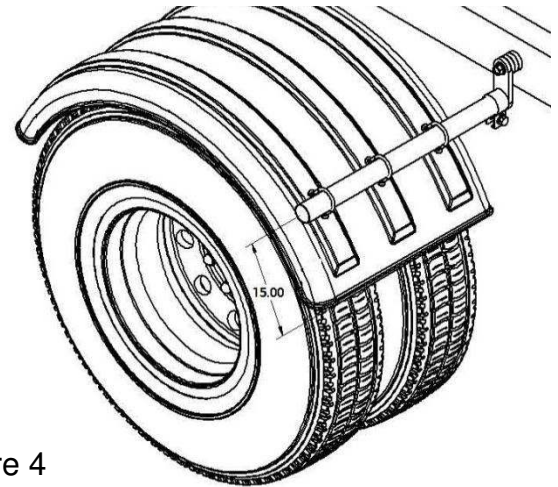

Figure 4
- D. If possible, position the brackets on the leading edge of the fender are within 15” of the bottom of the fender to avoid wind blowing the fender back into the tire. (Figure 4).